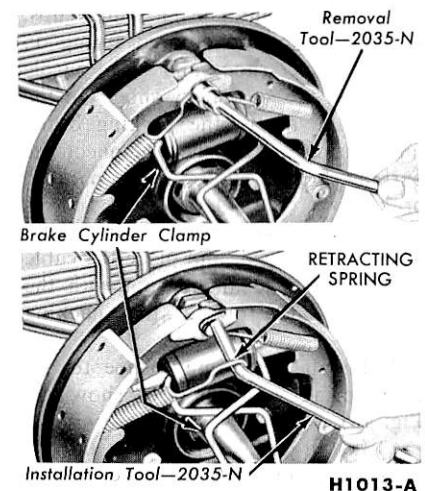

FIG. 18—Spring Replacement
1. With the wheel and drum removed, install a clamp over the ends of the brake cylinder as shown in Fig. 18.
5. Remove the secondary shoe to anchor spring with the tool shown in Fig. 18. With the same tool, remove the primary shoe to anchor spring and unhook the cable anchor. Remove the anchor pin plate, when so equipped.
7. Install the secondary shoe to anchor (long) spring (Fig. 18).
2. Clamp the brake cylinder boots against the ends of the cylinder, and remove the brake shoe retracting springs from both shoes (Fig. 18).
5. Install the brake shoe retracting springs on both shoes (Fig. 18), being